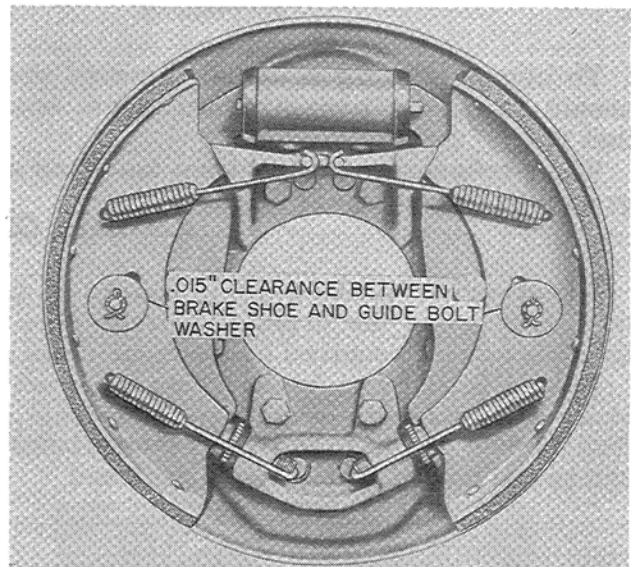

Figure W-36
8. Tighten the guide bolt nut so that the brake shoe and lever will have a clearance of .015" at the guide bolt washer. Refer to Figure W-36.